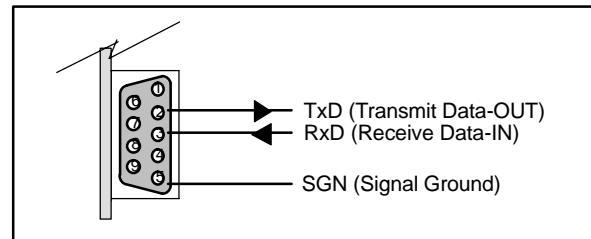

Figure 3. Front-Panel RS-232 (DB9)
10.02 The craft interface port is a DB-9 connector with an electrical RS-232 female interface in a DCE configuration. The craft device used can be a terminal operating in the VT-100 protocol or a PC running a VT-100 terminal emulation program. If a VT-100 terminal is used, a “null-modem” cable may be required between the terminal and the NIU. If a PC with VT-100 emulation program is used, a standard RS-232 cable can be used. The terminal RS-232 port should be set up for 9600 baud, 8 data bits, no parity, and one stop bit. The electrical connections to the craft port are shown in Figure 3.